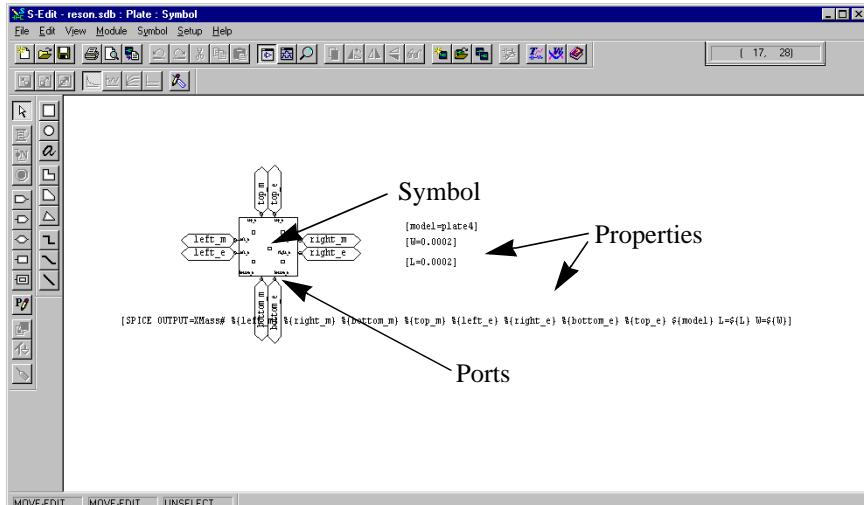

Figure 123: Symbolic view of the resonator
- Select **File > Open**. Open the **reson.sdb** file in the tutorial directory (Figure 123).